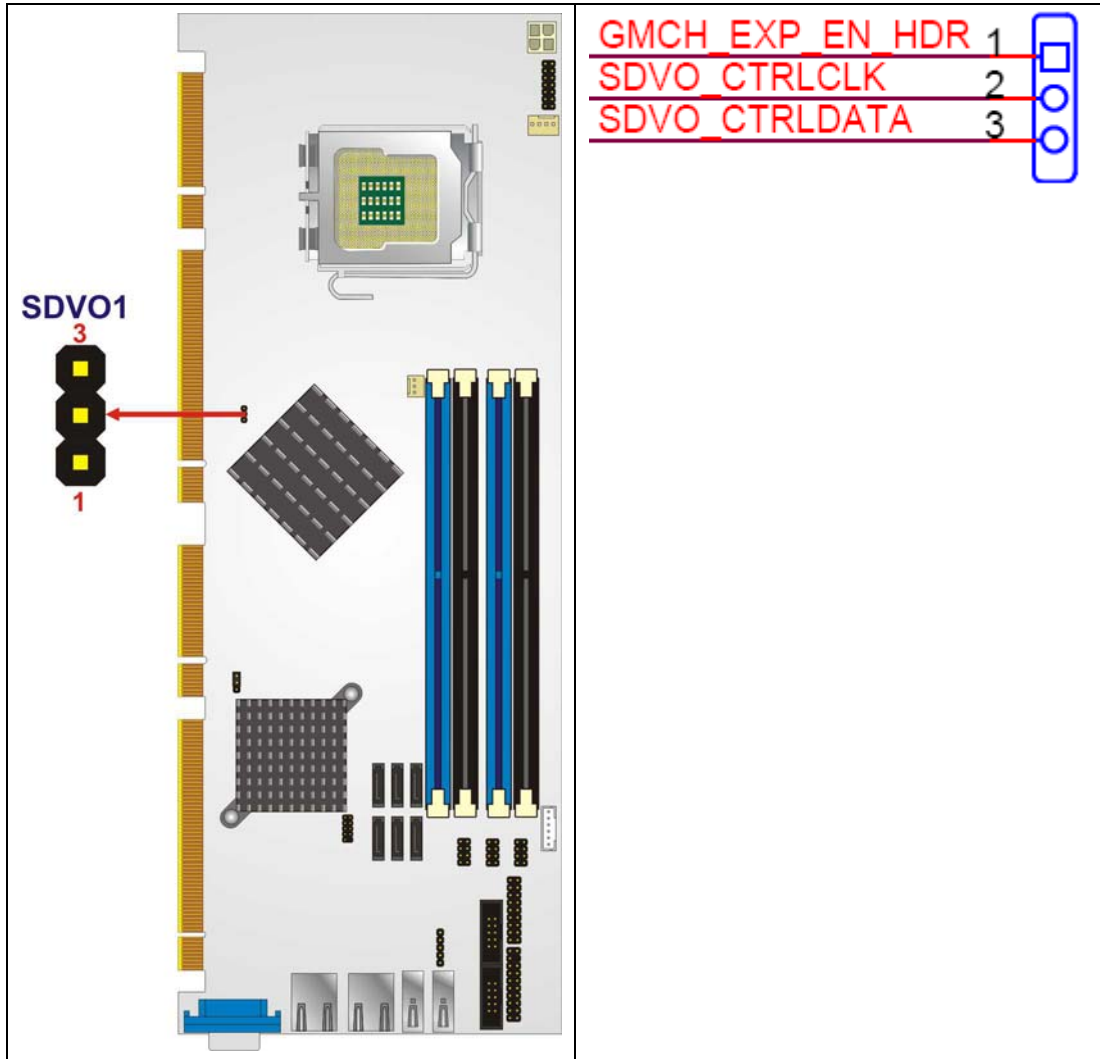

Figure 4-13:SDVO Connector Pinout Locations
- CN Location:** See Figure 4-13